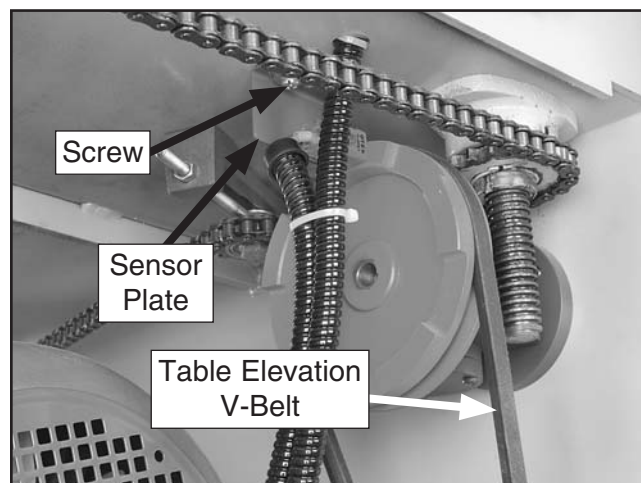

Figure 74. Handwheel indicator sensor plate.
4. Mark the left side of the handwheel indicator sensor plate (see **Figure 74**).